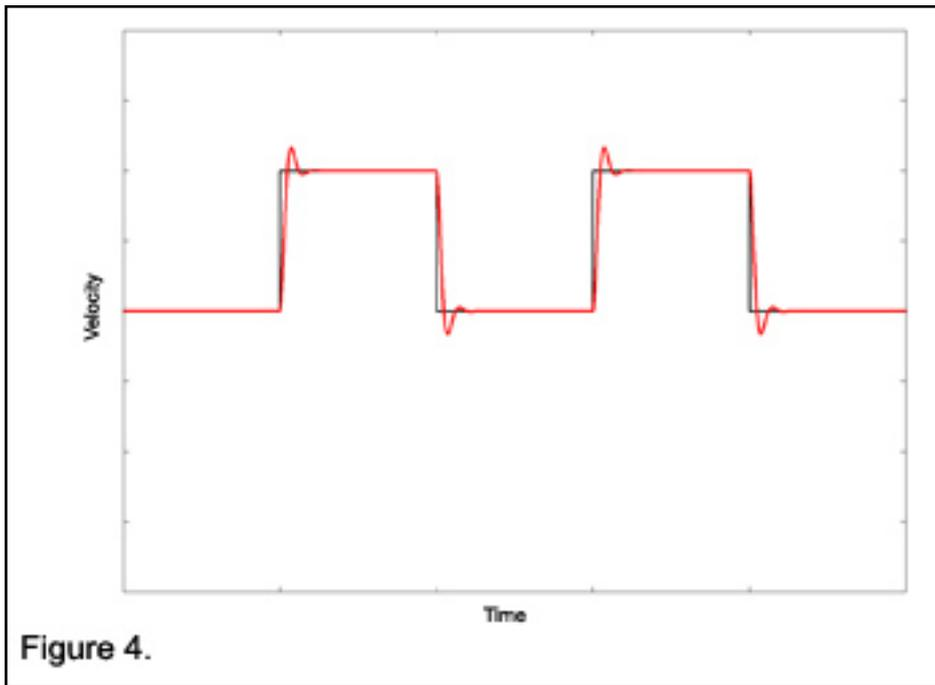

Figure 4.
2. Leaving the P and I terms at zero, increase D until the actual velocity profile closely matches the desired velocity profile. Do not worry about whether the destination positions match; you are only examining differences in velocity (velocity error) at this stage. Figure 4 shows a representative well-tuned velocity-versus-time graph.